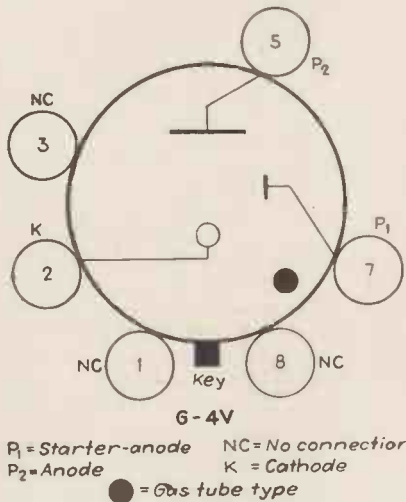

Fig. 1. Bottom view of socket connections of the OA4-G.
A new glow-discharge relay valve, recently announced, is designed primarily for this remote-control relay service. The valve, type OA4-G, is a gas triode having a cold cathode (K), a starter-anode (P1) and an anode (P2). Socket connections for the octal base of the OA4-G are given in Fig. 1. Operating characteristics and maximum ratings are as follows:—